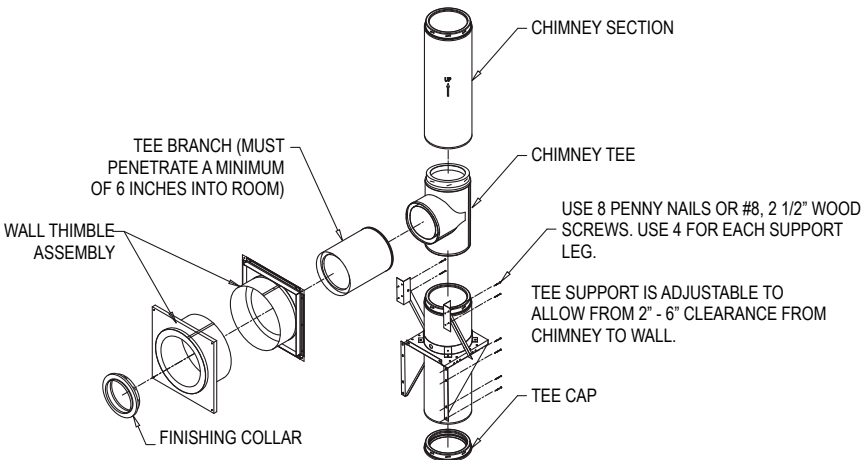

Figure 24
4. Install Tee Support: Install the Tee Support on the outside wall. Position Tee Support so that the chimney Tee will be centered inside the Wall Thimble (**Figs 24, 25, & 26**). The Tee Support may be installed either above the Tee or below the Tee (within one pipe section), as seen
in **Figure 26**. The Tee Support can support up to 50-feet of chimney by itself, or up to 70-feet of chimney if the Tee Support Straps are used (**Fig 24, 26**). Important: Verify that Tee Support is level, and secure the leg brackets of the Tee Support to the wall using (4) #8, 2-1/2" screws for each side. Slide support base over leg brackets to adjust for desired clearance to wall, and secure by tightening bolts. (**Figs 26 & 27**).